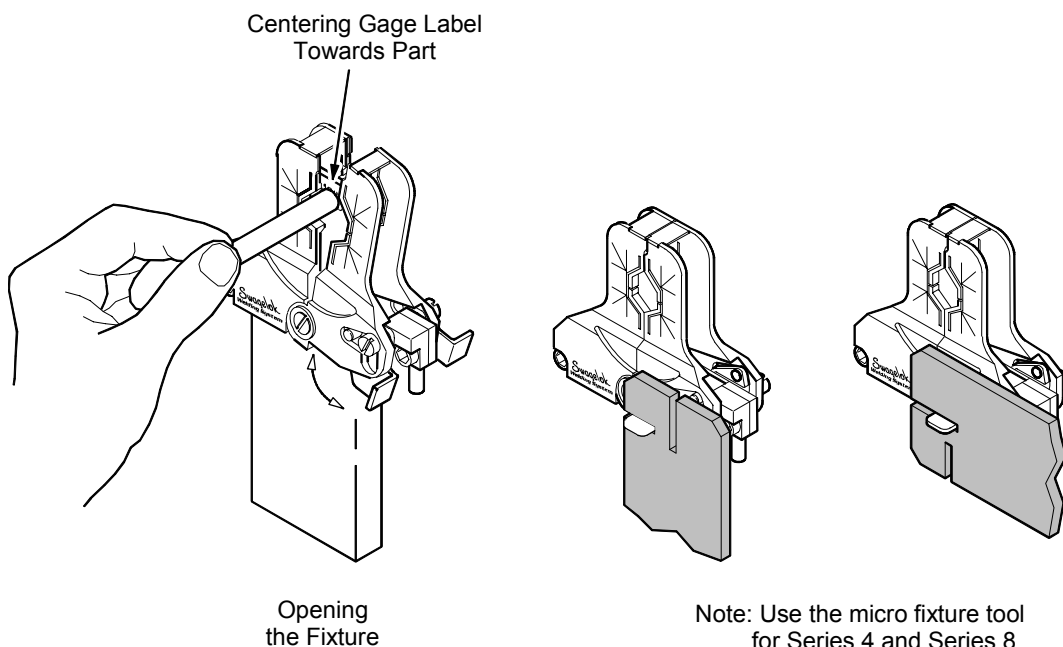

Figure 14 Insert First Work Piece
2. Open the fixture side facing the labeled side of the centering gage by rotating the latch 90°. See Figure 14.
The fixture opens with a scissors type action. Figure 14 shows how to use the micro fixture tool on the Series 4 fixture.